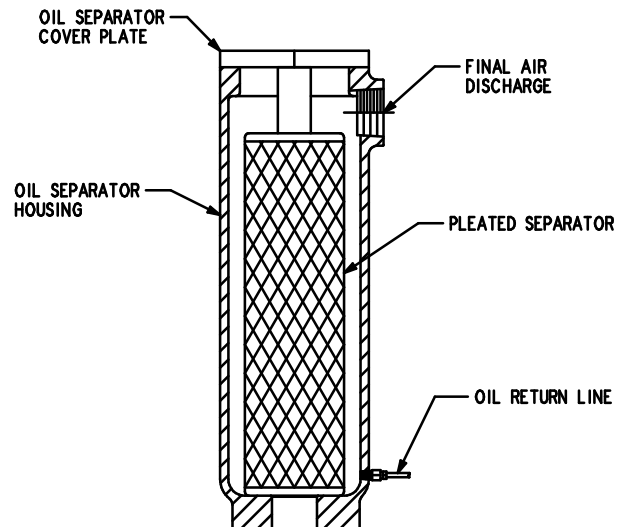

FIGURE 5-11 – OIL SEPARATOR
**COMPRESSOR (GD ELIMINATOR) OIL SEPARATOR** located in a separate housing, consists of a renewable cartridge-type separator element and provides the final removal of oil from the air stream (FIGURE 5-11).